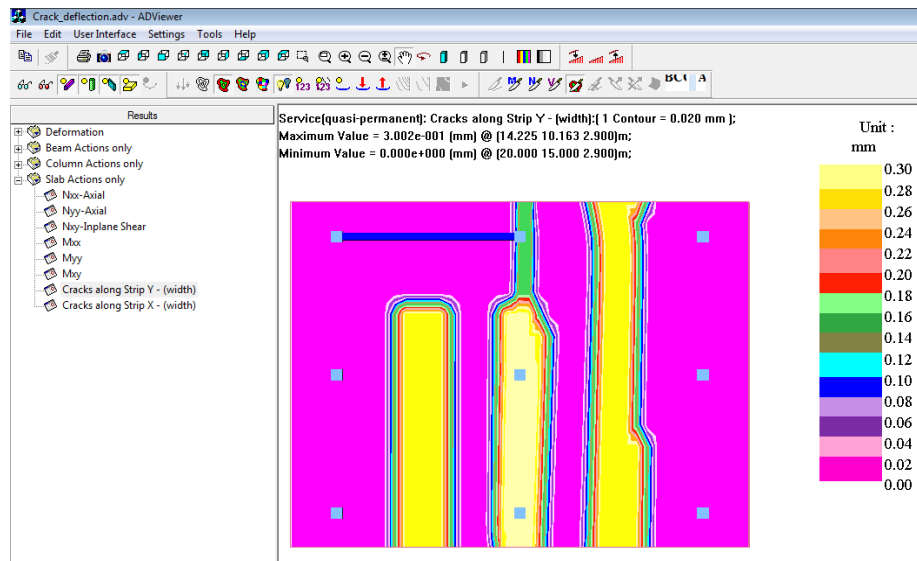

Figure 8.6-3 - Cracks Along Strip Y
- Select  and  tools. The color contour will display on the screen (Fig. 8.6-3)